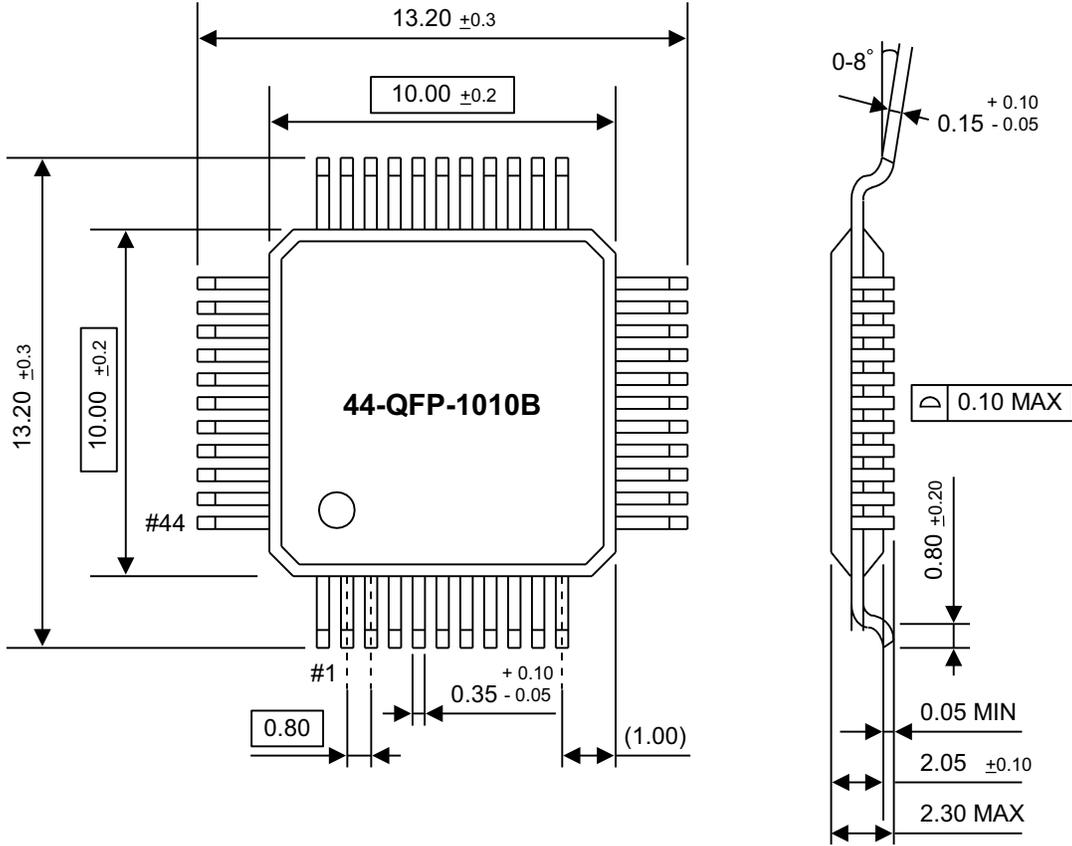

Figure 131. Package Dimensions, 44-Pin QFP Package
The S3F8S45 microcontroller is currently available in 44-pin QFP, 42-pin SDIP, and 32-pin SDIP packages. A mechanical drawing of the 44-pin QFP package is shown in Figure 131.
► **Note:** Dimensions in Figure 131 are expressed in millimeters.